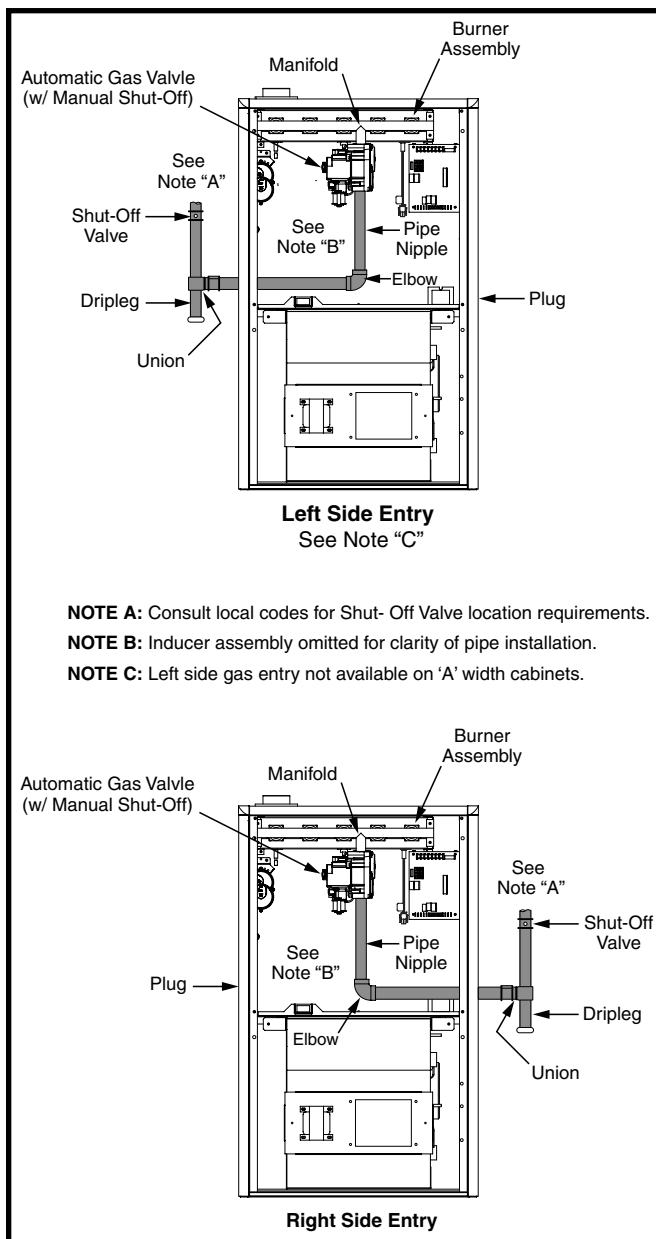

Figure 18. Typical Gas Connections
- Some local regulations require the installation of a manual main shut-off valve and ground joint union external to the furnace. The shut-off valve should be readily accessible for service and/or emergency use. Consult the local utility or gas supplier for additional requirements regarding placement of the manual main gas shut-off. See Figure 18 \(page 19\).
- A drip leg should be installed in the vertical pipe run to the unit. See Figure 18.
When connecting the gas supply, provide clearance between the gas supply line and the entry hole in the furnace casing to avoid unwanted noise and/or damage to the furnace. Typical gas hookups are shown in Figure 18.